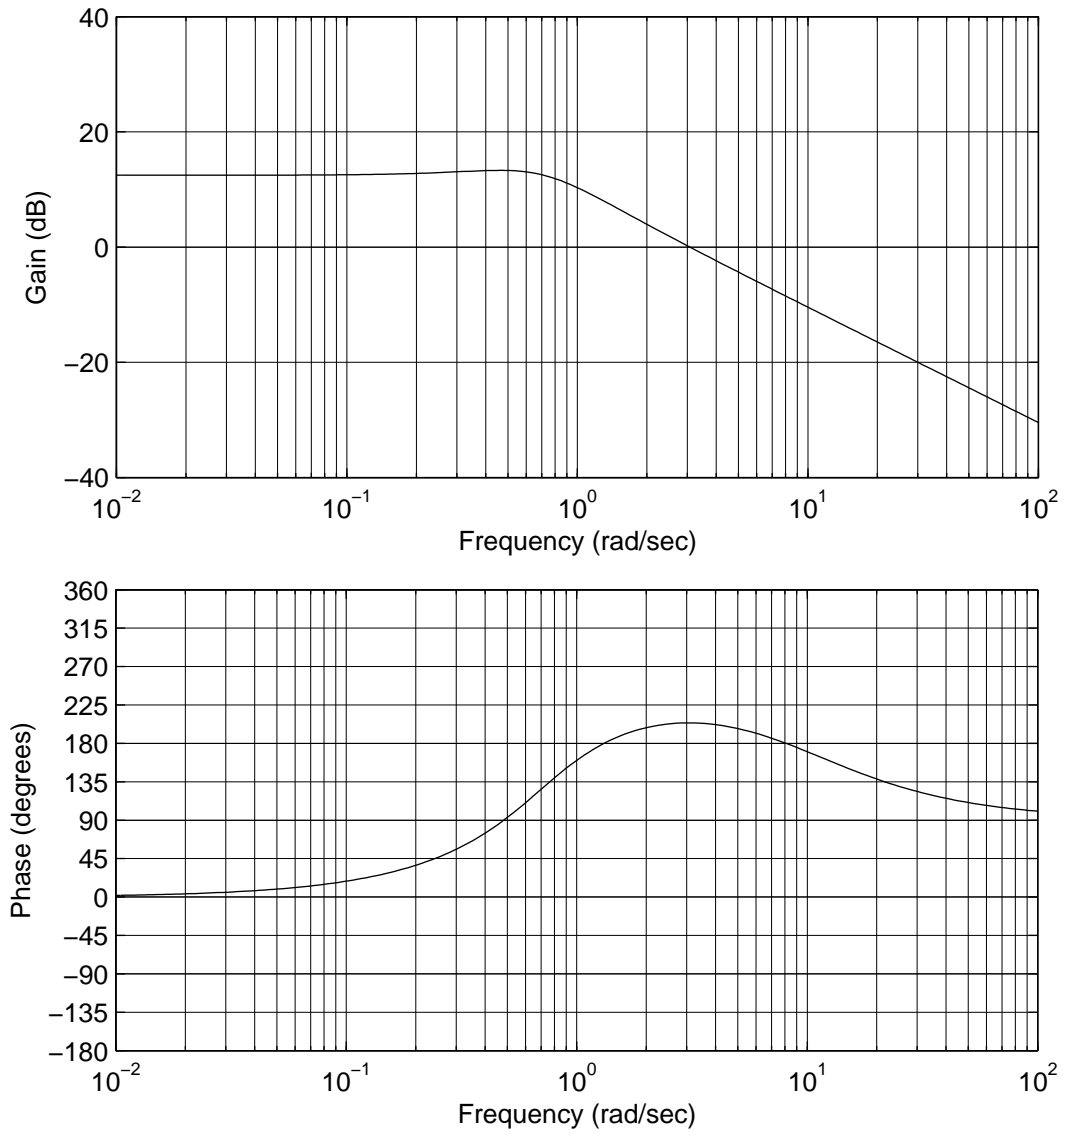

Fig. 2
two extra copies of Fig. 2 (Question 2)
2 Figure 2 is the Bode diagram of a system with transfer function $G(s)$ for which a compensator $K(s)$ is to be designed. It may be assumed that $G(s)$ is a real-rational transfer function.
- (a) (i) Sketch on a copy of Fig. 2 the expected phase of $G(j\omega)$ if $G(s)$ were stable and minimum phase. [10%]
Sketch the Bode diagram of $K(s)$ and $G(s)K(s)$ for your design on a further copy of Fig. 2. [Hint: you may find it useful to first design a compensator to satisfy A and C with some extra margin, and then to further modify it to satisfy B.] [40%]
Two copies of Fig. 2 are provided on separate sheets. These should be handed in with your answers.
Extra copy of Fig. 2: Bode diagram for Question 2.